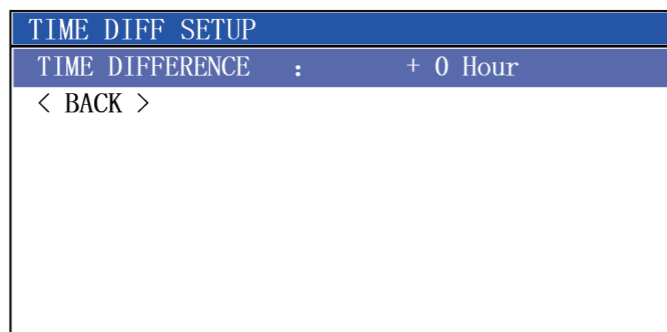

Figure6.6.2
- a:Select the <Time Difference Setting> item in the system setting menu,and press the [ENT] key to open the time time difference,as shown in Figure 6.6.2.